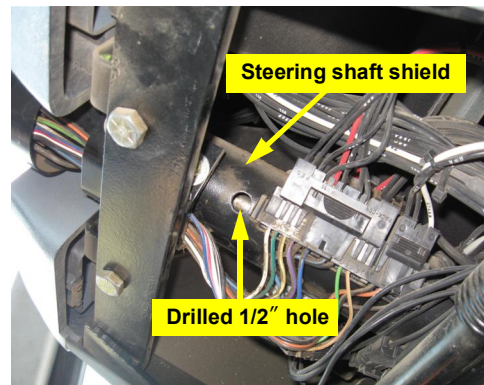

Figure 1d: Drilled hole in steering shaft shield
- d. Using the cut sensor arm as a template, drill a $\frac{1}{2}$ inch hole in the steering shaft shield (Figure 1d).